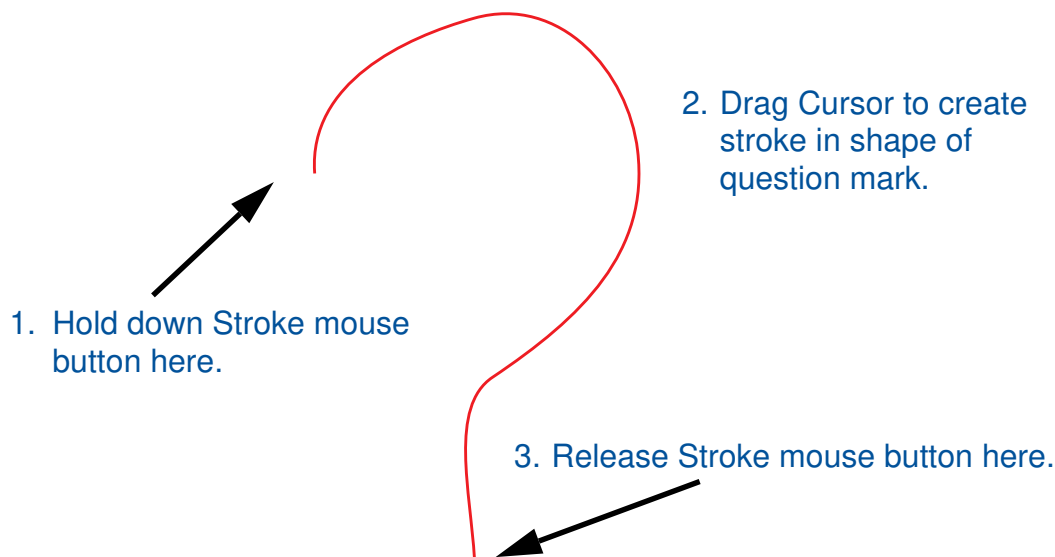

Figure 1-21. Stroke for Help on Strokes
1. View the help information on strokes by placing the cursor in the edit window, holding down the Stroke mouse button (the center mouse button by default), and moving the cursor to draw a stroke in the shape of a question mark, as shown in Figure 1-21. (As you move the cursor, a line traces the movement of the mouse. This line is a *stroke*.)